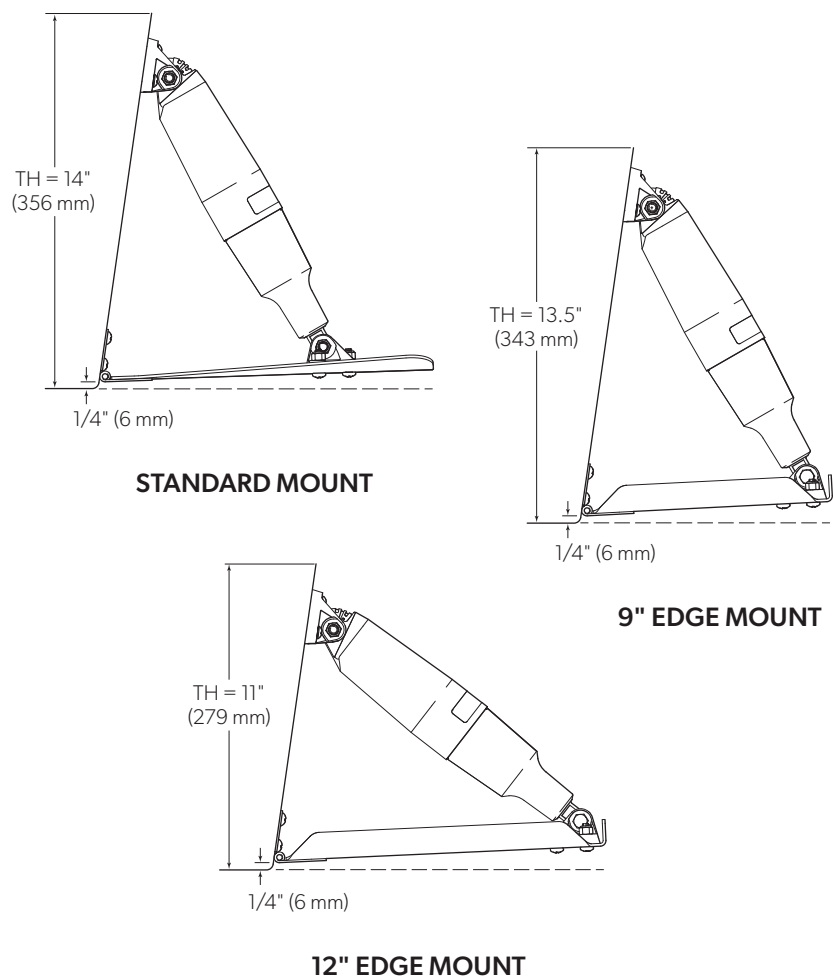

Figure 14-3. Dimensions shown apply to standard 2.25" actuator only.
- There are different tab configurations available and they will have different transom height (TH) requirements as shown in figure 14-3. The actual transom height will vary with the angle of the transom, so the maximum value for TH is shown.